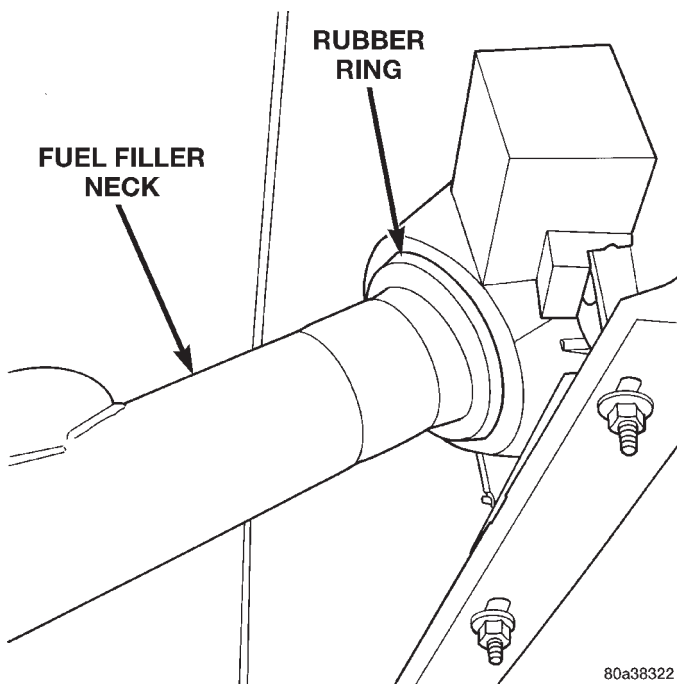

Fig. 42 Rubber Grommet and Body Housing
- (2) Remove fuel filler neck from grommet in body housing (Fig. 42).